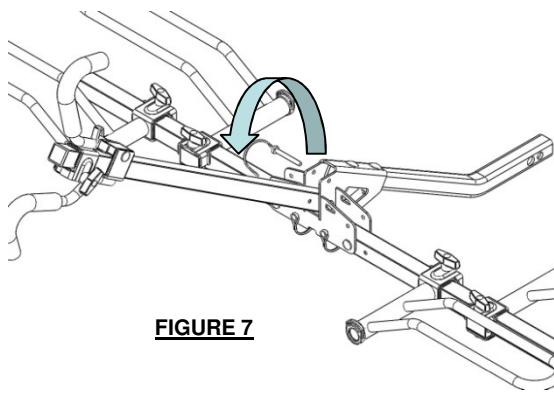

FIGURE 7
1. Load inner bicycle first. Pull bail pins and rotate center tubes down as illustrated. (Fig 7)